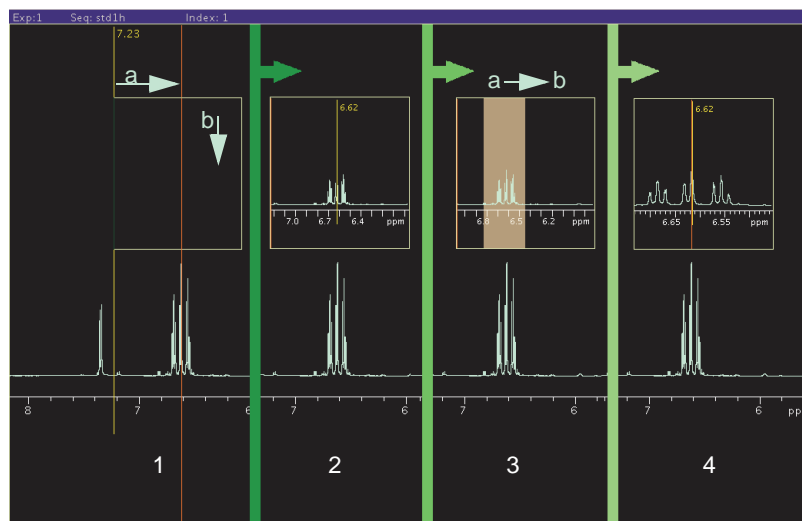

Figure 80. Creating an Inset Frame
3. Place the cursor at the low field (left) side of the region to be expanded as shown in Figure 80 frame 1a.
5. Drag the cursor down to set the height of the inset frame, see Figure 80 frame 1b.
6. Release the mouse button to create the inset frame, see Figure 80 frame 2.
4. Place the cursor at the low field (left) side of the region to be expanded as shown in Figure 80 frame 3a.
5. Hold the left mouse button down and drag the inset window to the high field (right) side of the region, Figure 80 frame 3b.
6. Release the mouse button, and the selected region expands to fill the inset box, Figure 80 frame 4.